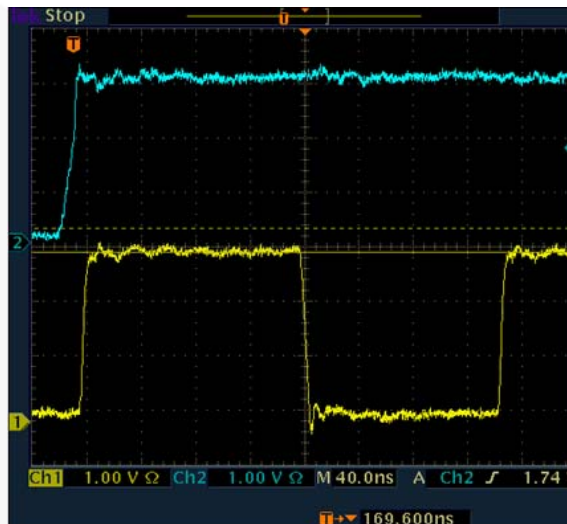

Figure 14. Scope Shot of I/O and Clock Signals
Due to open-drain technology, hosts and SIM cards do not use push-pull drivers on the I/O pin. Logic LOWs are pulled down (I_{sink}), while logic HIGHs are “let go” (3-state). During a logic LOW on the I/O pin, both series NpassGates are turned on and act like a very low resistive short between the host and the SIM card. When the host or card lets go of a previously held LOW on the I/O pin, the rise time is largely determined by the RC time constant, where R is the external pull-up resistor and C is the I/O signal trace capacitance. The value of RPU is to be chosen to not exceed 1 mA maximum I_{OL} per IOS7816-3 compliance testing. The FXLA2204 acts as a very low resistive short between the host and SIM card (during a LOW) until either of the port’s $V_{\text{CC}2}$ thresholds are reached. After the RC time constant has reached the $V_{\text{CC}2}$ threshold of either port, the port’s edge detector triggers both dynamic drivers to drive their respective ports in the LOW-to-HIGH (LH) direction, accelerating the rising edge. The resulting rise time resembles the CH2 waveform (blue) of Figure 14. Effectively, two distinct slew rates appear in the rise time. The first slew rate (slower) is the RC time constant of the I/O signal trace. The second slew rate (faster) is the dynamic driver accelerating edge.